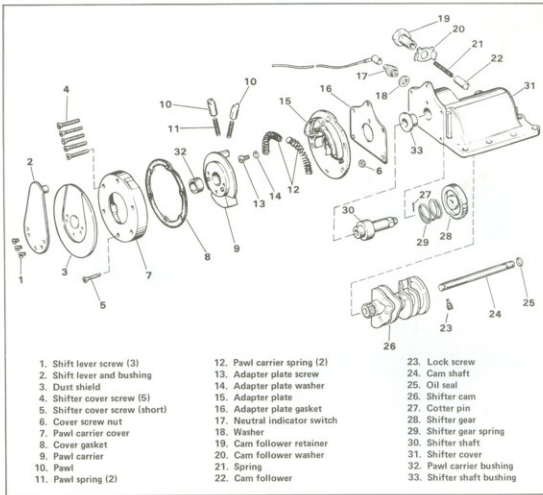
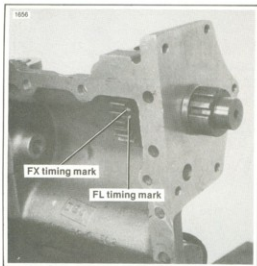
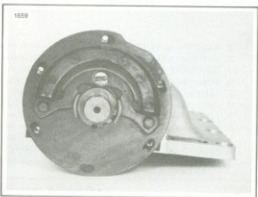

Figure 7-9. Drum Shifter — Exploded View
Figure 7-10. Aligning Shifter Gear and Shaft
Figure 7-13. Aligning The Shifter Plate
5. See Figure 7-9. Remove the pawl carrier (9), pawls (10) and springs (11, 12).
6. See Figure 7-9. Remove the adapter plate screw (13), washer (14) and adapter plate (15).
Cleaning, Inspection and Repair (Figure 7-9)
1. See Figure 7-10. Place the shifter gear and spring (28, 29, Figure 7-9) into the cover. Install the shifter shaft into the case and through the spring and gear. Align the timing mark on the gear with the first slot on the shifter shaft as shown.
3. See Figure 7-9. The shifter cam (26) has one tooth on its gear that is shorter than the rest.
4. See Figure 7-9. Install the cam follower (22), spring (21), lockwasher (20) and retainer (19). Tighten the retainer and turn one lockwasher tab against a retainer flat.
5. See Figure 7-9. Install the gasket (16) and adapter plate (15). Coat the screw (13) threads with Loctite LOCK N' SEAL. Install the washer (14) and screw (13) but do not tighten the screw yet.
7. See Figure 7-13. The shifter plate will move slightly. Adjust the shifter plate so it aligns with the first notch as shown. Tighten the screw (13, Figure 7-9) to 6-9 ft-lbs torque.
8. See Figure 7-9. Apply a multi-purpose grease to the springs (12) and install them on the adapter plate.
9. Grease the end of shifter shaft and lubricate the pawls (10) with light oil. Install the pawl springs (11) and pawls into the pawl carrier (9). Make sure grooves in pawls register on pawl carrier pins. Install the pawl carrier on the shifter shaft so that the tab is positioned between the two springs (12).